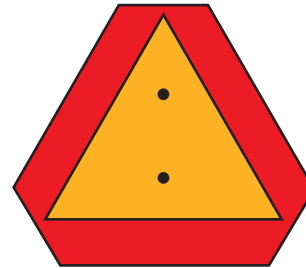

Figure 3-7: SMV Sign
- Transport during daylight hours when ever possible. Always use flashing warning lights, except where such use is prohibited by law. Make sure lights, reflectors and SMV emblem are clearly visible and operating. Remove any obstructions such as dirt, mud, stalks or residue that restricts view before transporting. **See Figure 3-7.**